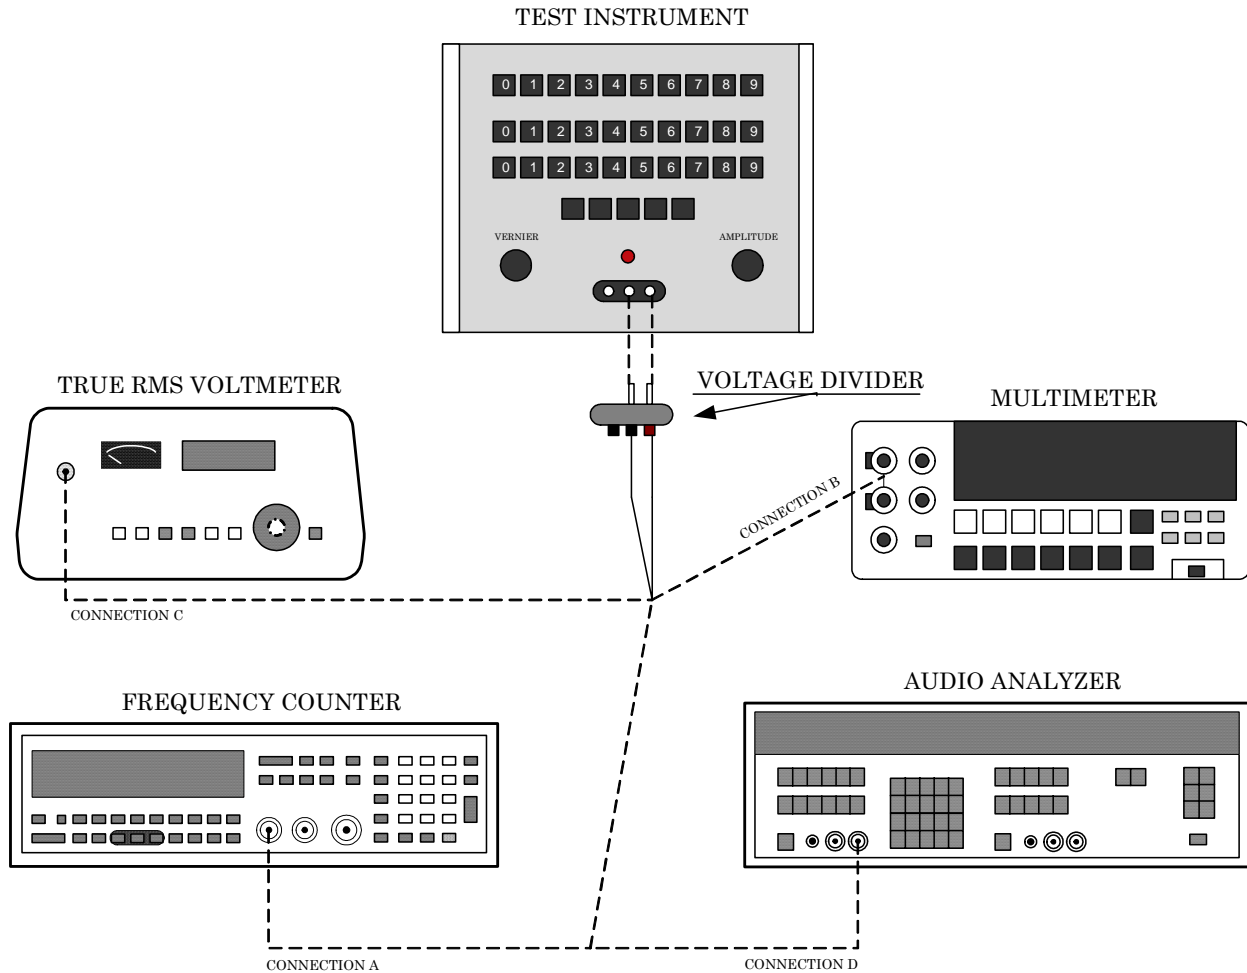

Figure 1. Equipment setup.
(1) Connect equipment as shown in figure 1, CONNECTION A.
- (1) Connect equipment as shown in figure 1, CONNECTION B.
- (2) Press **1.00 FREQUENCY DIGITS** pushbuttons and **X1 KC MULTIPLIER** pushbutton.
- (3) Adjust **VERNIER** control to **CAL**.
- (4) Adjust **AMPLITUDE** control for a 1.00 V ac indication on multimeter.
- (5) Press **5.00 FREQUENCY DIGITS** pushbuttons. Multimeter will indicate between .98 and 1.02 V ac.
- (6) Press **MULTIPLIER** and **FREQUENCY DIGITS** pushbuttons as listed in table 4. Multimeter will indicate between .98 and 1.02 V ac.
- (7) Connect equipment as shown in figure 1, CONNECTION C.
- (8) Press **1.00 FREQUENCY DIGITS** pushbuttons and **X1 KC MULTIPLIER** pushbutton.
- (9) Adjust **AMPLITUDE** control for a 1.00 V ac indication on true rms voltmeter.
- (10) Press **9.00 FREQUENCY DIGITS** pushbuttons. True rms voltmeter will indicate between .98 and 1.02 V ac.
- (11) Press **MULTIPLIER** and **FREQUENCY DIGITS** pushbuttons listed in table 5. True rms voltmeter will indicate between .98 and 1.02 V ac.
- (1) Connect equipment as shown in figure 1, CONNECTION D.
- (2) Position controls as listed in (a) through (f) below:
- (3) If audio analyzer does not indicate one percent or less distortion, perform **b** below.
- (4) Repeat technique of (2) and (3) above for frequencies of 10 Hz and 600 kHz. Audio analyzer will indicate one percent or less distortion.